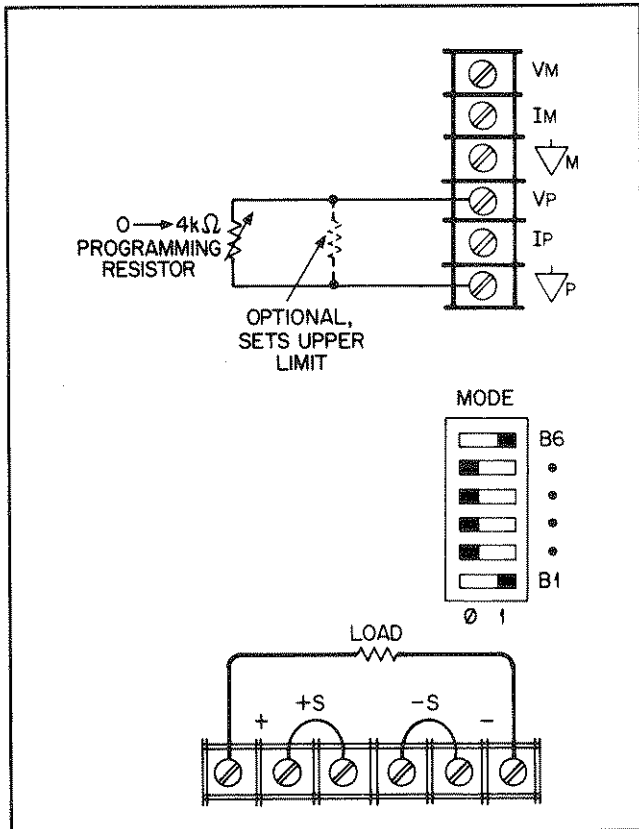

Figure 3-9. Resistance Programming of Output Voltage
3-202 Although the following setup drawings (Figure 3-9 through 3-13) show the supply strapped for local sensing, analog programming and remote voltage sensing do not interact and may be used simultaneously.
**3-203 Constant Voltage Output, Resistance Control.** The setup shown in Figure 3-9 allows the output voltage to be varied by using an external resistor to program the power supply. A programming resistor variable from 0 to 4000 ohms produces a proportional output voltage from zero to full scale. Note that fixed resistors may be connected in series and/or parallel with the variable programming resistor to set lower and/or upper output voltage limits. The resultant programming resistance is the sum of the series/parallel resistor combination, and must be between 0 and 4000 ohms. For example, a 2000 ohm resistor connected in series with the variable programming resistor will set the lower limit for output voltage at one-half full scale.